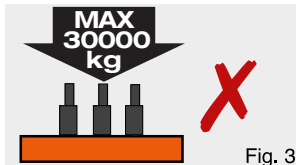

Fig. 3
- Do not use this press support beyond its rated capacity. (Fig. 3)